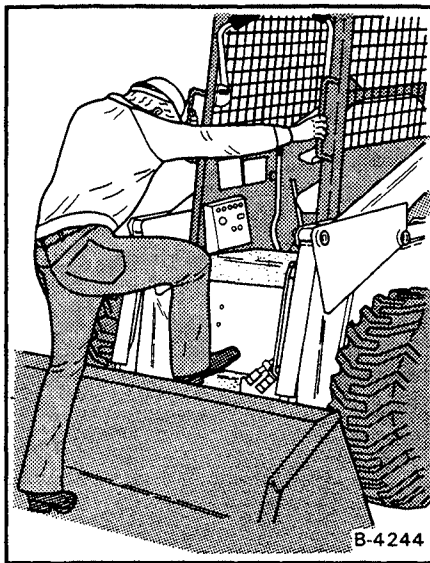

Fig. 1 Using Safety Tread
1. Use the safety tread and grab handles (Fig. 1) when you get on or off the loader.